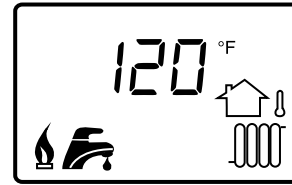

Figure 14-7: Home Screen While Running
7. If successful ignition, display will show flame icon (Figure 14-7).